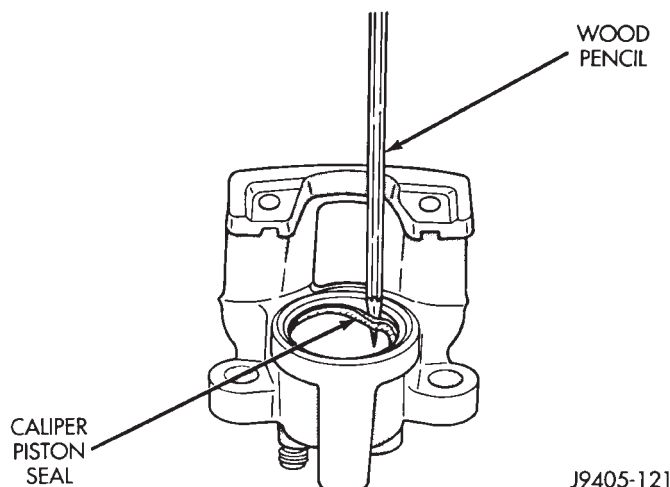

Fig. 79 Caliper Piston Seal
- (6) Remove and discard caliper piston seal with pencil, or plastic tool (Fig. 79). Do not use metal tools as they will scratch piston bore.